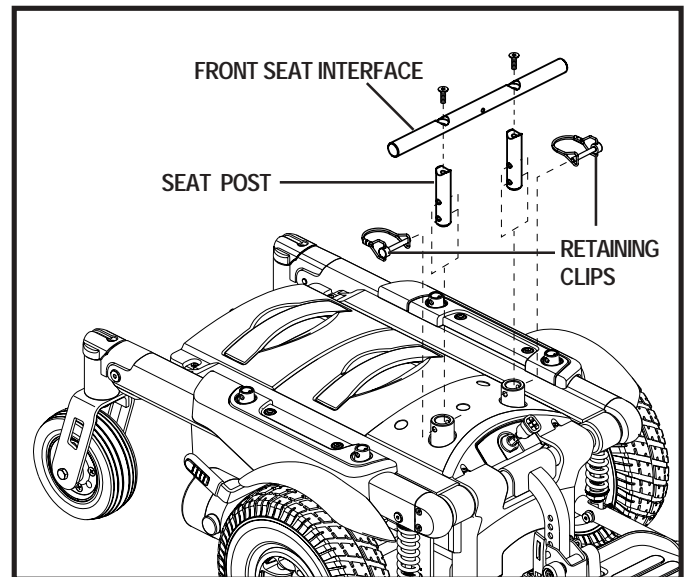

Figure 15. Front Seat Interface Height Adjustment
You can change the seat height to one of two positions in 2.5 cm (1 in.) increments by raising the front seat interface and side frame handles. See figures 15 and 16. If you raise or lower only the front seat interface or the side frame handles, you can also change the seat base angle (dump).
4. Loosen the screws that attach the side frame handles and front seat interface to the seat posts. See figures 15 and 16.